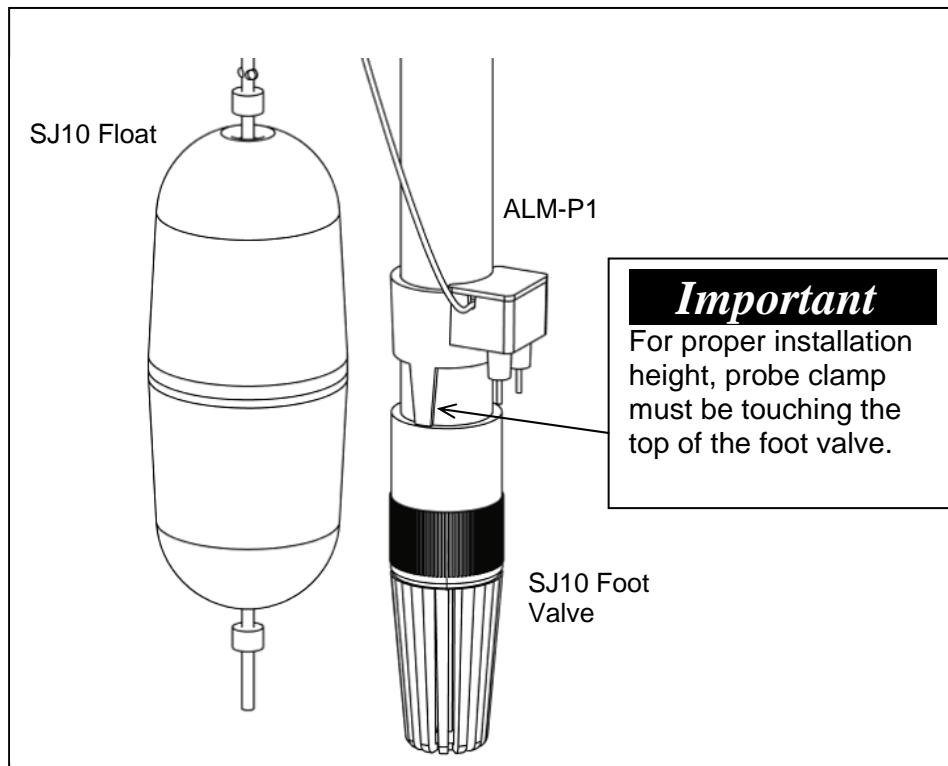

Figure 3
1. The correct position for the water sensor clamp is already determined on the SJ10, to trigger just before the pump activates. The clamp should be placed on the intake pipe of the SJ10 pump, with the bottom of the clamp touching the top of the pump's foot valve. If the clamp is not positioned directly against the foot valve, the alarm may not function properly. The clamp should be rotated so that the probes face away from the SJ10 float. See figure 3.